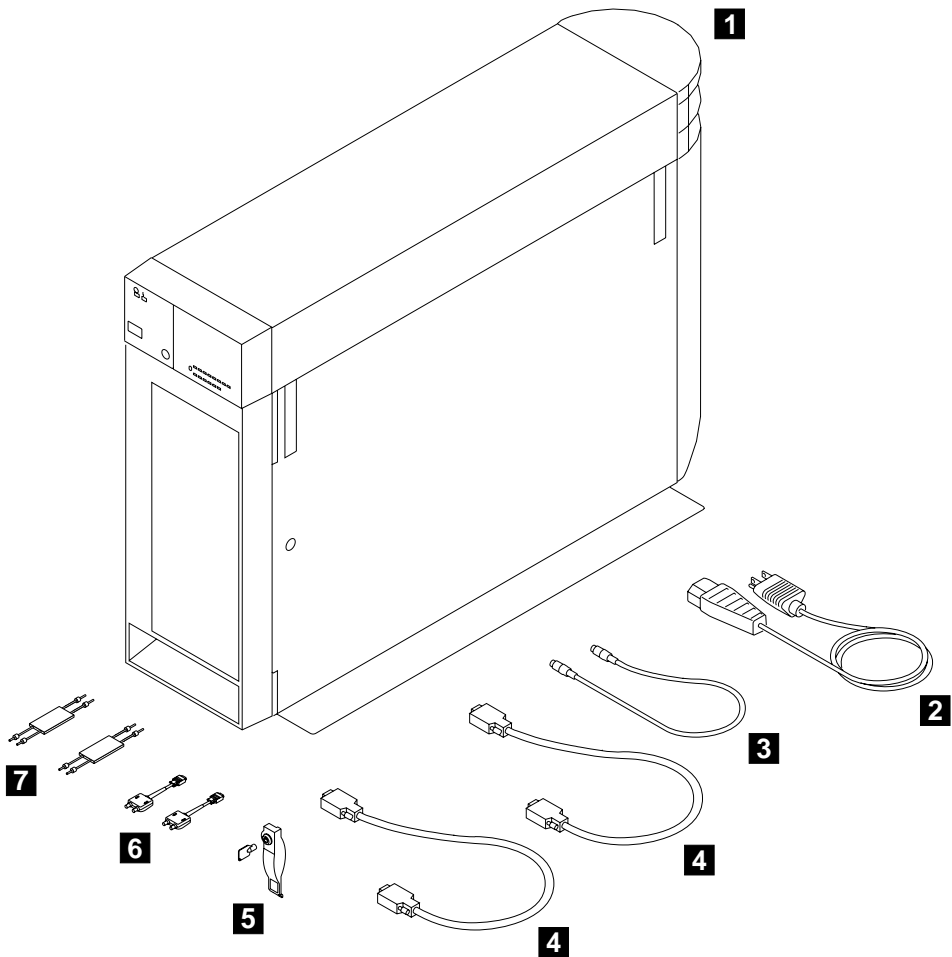

Figure 3. Items for the 7133 Model T40
Step 1. A detailed list of items is shipped with the 7133 Model T40. Ensure that you have all the items that are shown on the list. Refer to Figure 3 to identify the items.